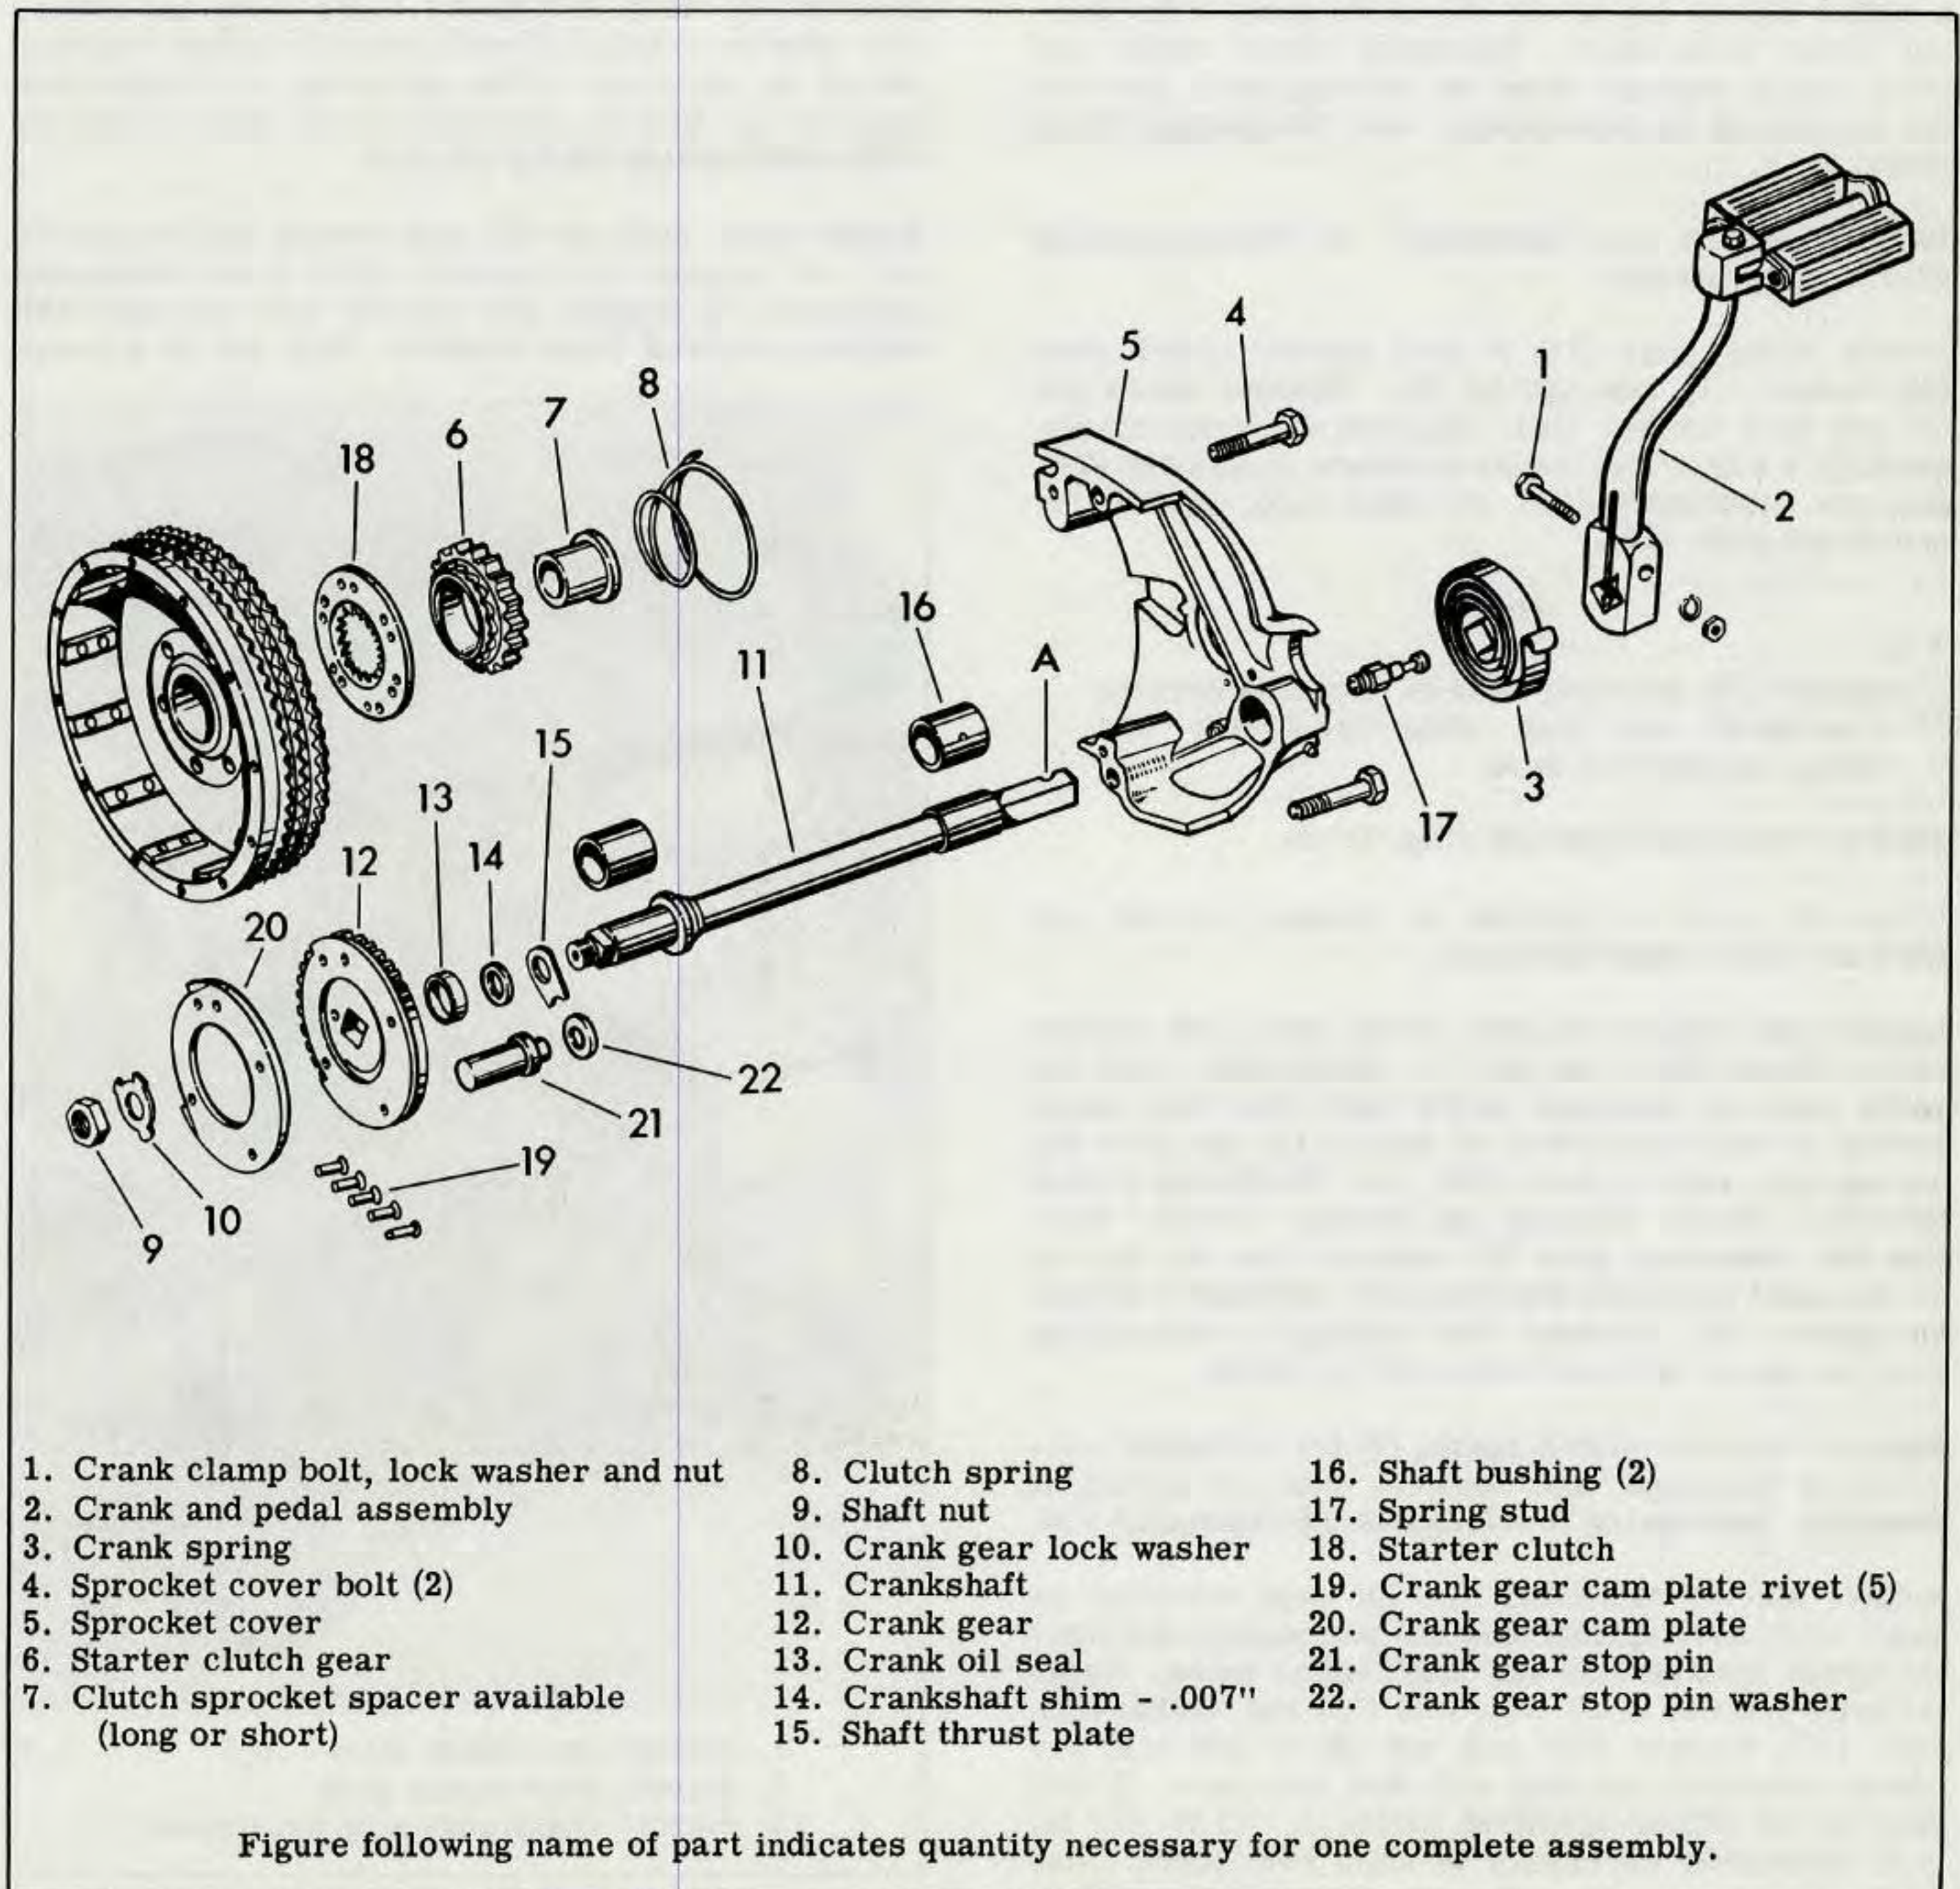

Figure 4C-2. Kick Starter - Exploded View
See Fig. 4C-2. A service problem will be indicated by starter gears ratcheting (clicking) with engine running, and starter crank upright as positioned on motorcycle. Ratcheting is caused by the starter clutch gear (6) teeth making partial contact with starter clutch (18) teeth, as the result of either a loose starter shaft nut (9), excessive crankshaft (11) end play or a loose starter crank gear cam plate (20).
DISASSEMBLY (Fig. 4C-2)